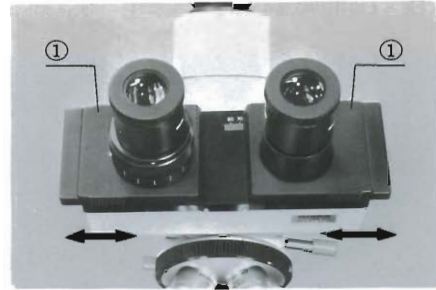

Fig. 11
- 2) Looking through the eyepieces with both eyes, adjust the interpupillary distance of the binocular tube by adjusting the knurled dovetail slides ① of the right and left eyepiece tubes with both hands until perfect binocular vision is obtained. (Fig. 11)